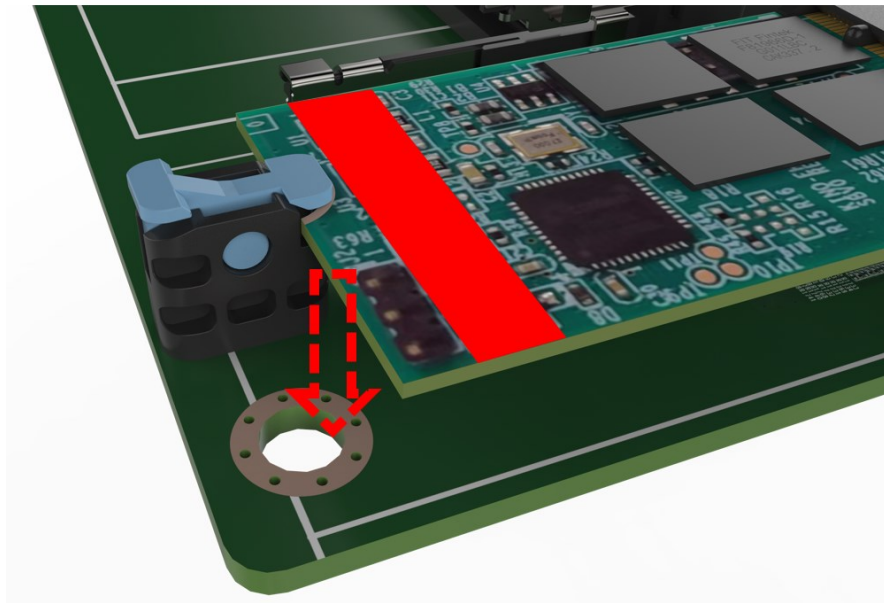

Figure 3-8: Securing the M.2 card
Step 5: Secure the M.2 card. Press down the M.2 card to fix it (**Figure 3-8**).